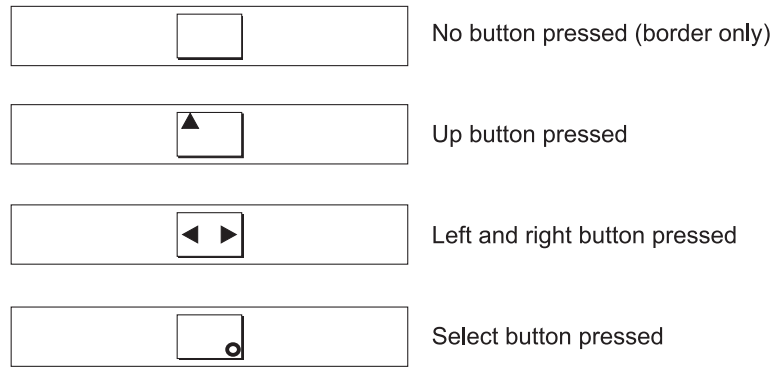

Figure 30. Front-panel display when push buttons are pressed
3. Press the up, down, left, and right buttons to verify that they are working. Figure 30 on page 33 shows four examples of what the front panel should display when you press the buttons. After you finish testing the buttons, press and hold the select button for five seconds to exit the test.